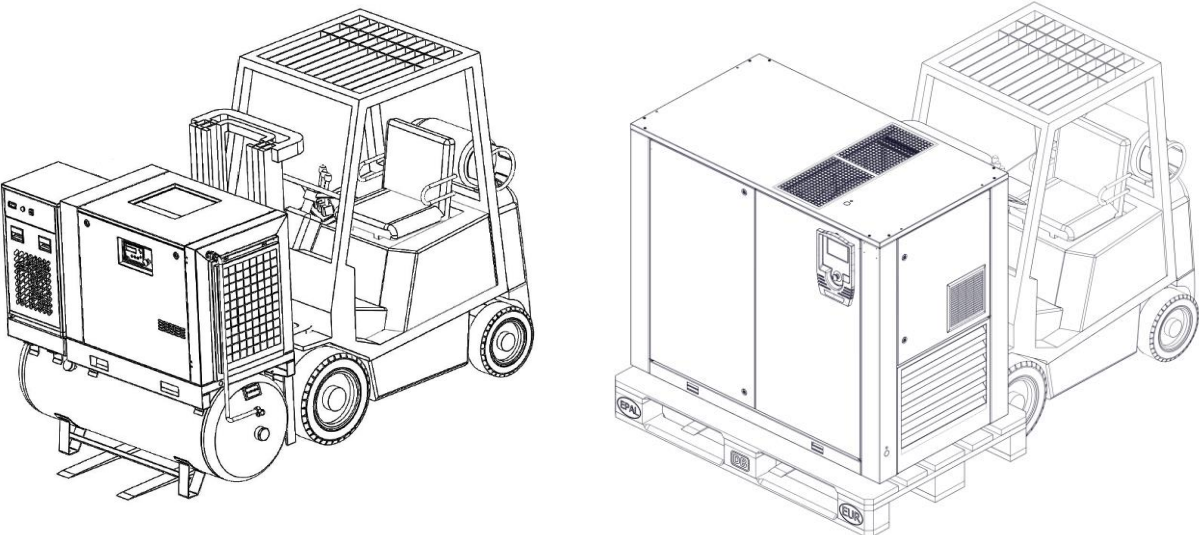

Figure 14 Transportation of Compressor with Forklift
- Before lifting a compressor on pallets by a forklift, be sure that the compressor has been strongly and safely mounted on the pallets. Otherwise, the compressor might fall down from the pallets, resulting in damages and injuries(Figure 14)